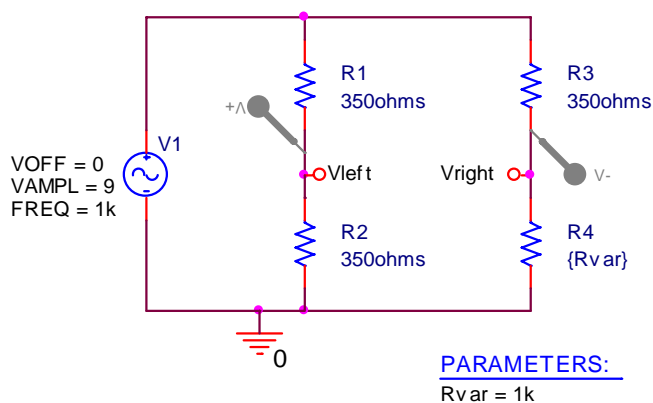

Figure A-2
- Now your circuit should look like the figure below. When you have finished, you will see the parameter and its default value listed under Parameters. (Refer to figure A-2 below.)